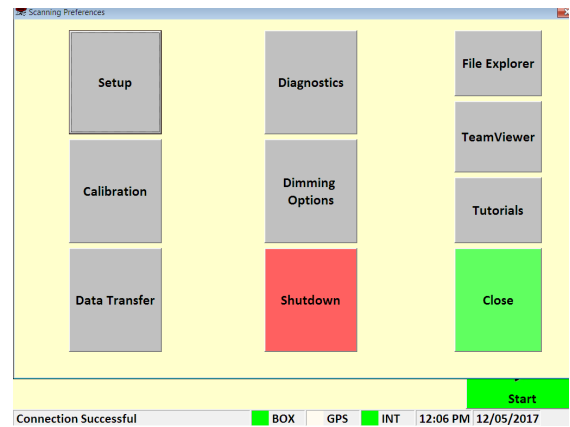

Figure 5-18. Options Window
- Press the **Calibration** menu button to open the Calibration menu. Figure 5-18.